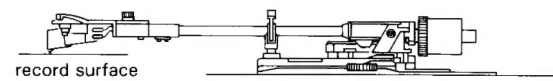

Fig. 24
3. Slide the counterweight to the middle of the weight shaft and turn it until the tonearm is balanced with the stylus nearly touching the record surface. (Fig. 24)